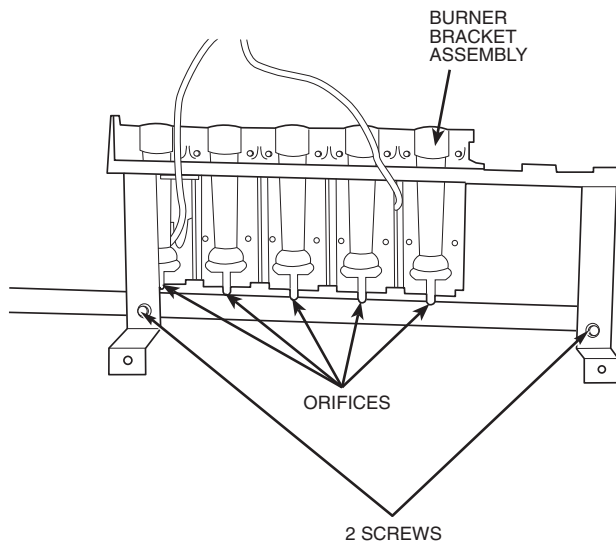

Fig. 6 — Burner Section
1. Remove the 2 screws securing the burner brackets to the manifold. See Fig. 6.